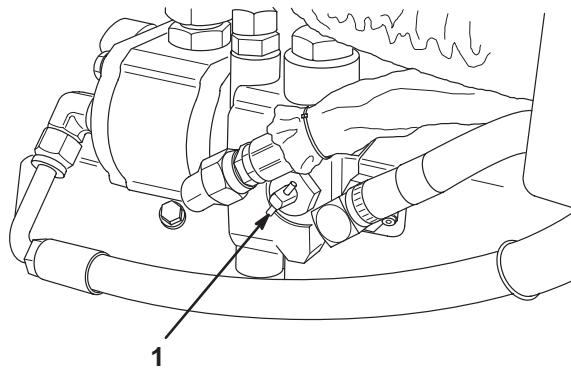

Figure 37
- Locate the bypass valve on the pump (Fig. 37) and rotate it 90° (the bypass valve lever should be horizontal when it is open).